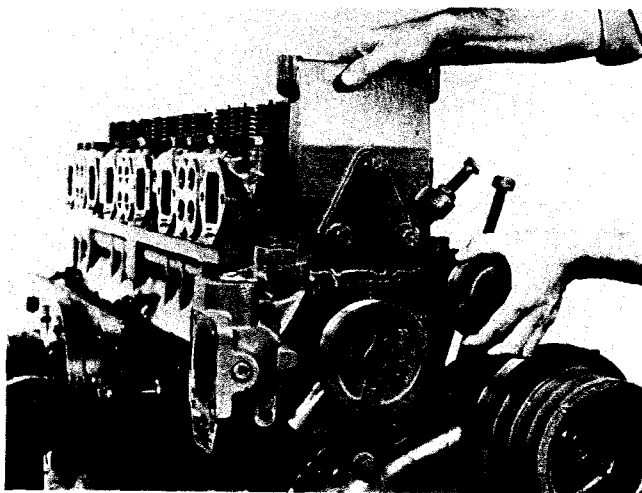

Fig. 14-40, (N114271). Installing water pump and idler.
1. Using new gasket, position water pump and idler assembly to block. Fig. 14-40. Torque as follows: